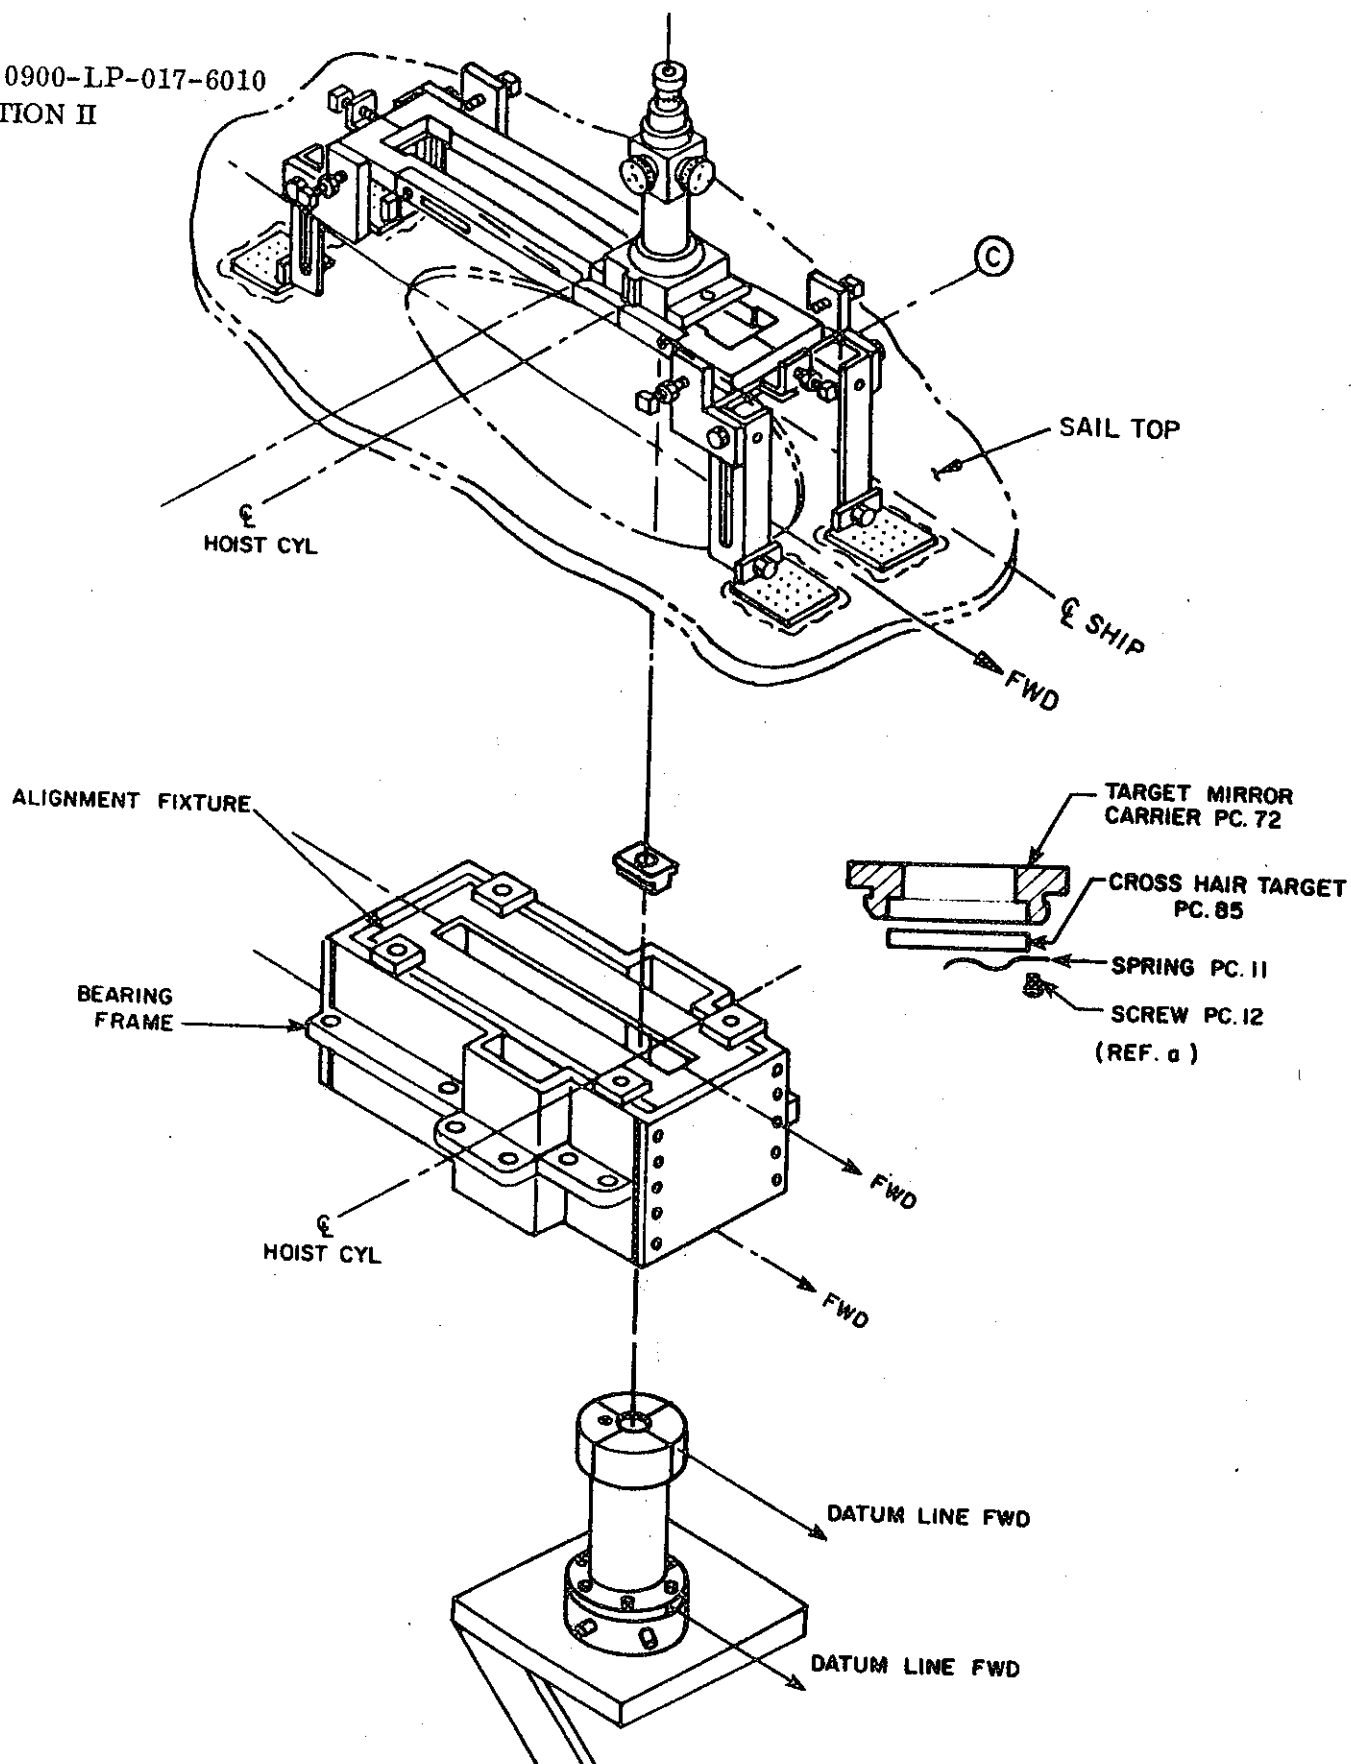

Figure 2-16. Positioning Bearing Frame
- STEP 3 Position the upper frame/fixture assembly on the bearing frame flat and align it with the combined assembly to locate the jacking clips for welding. (See Figure 2-16.) Jacking clips will be used for final positioning of the bearing frame to the aligned position. (See Figure 2-16.) To accomplish this, proceed as follows:
- STEP 4 Weld six (6) jacking clips to the top of the bearing frame flat foundation. Leave about 5/8 inch space between jacking clip and bearing frame for positioning room. Position of jacking clips to be as follows: